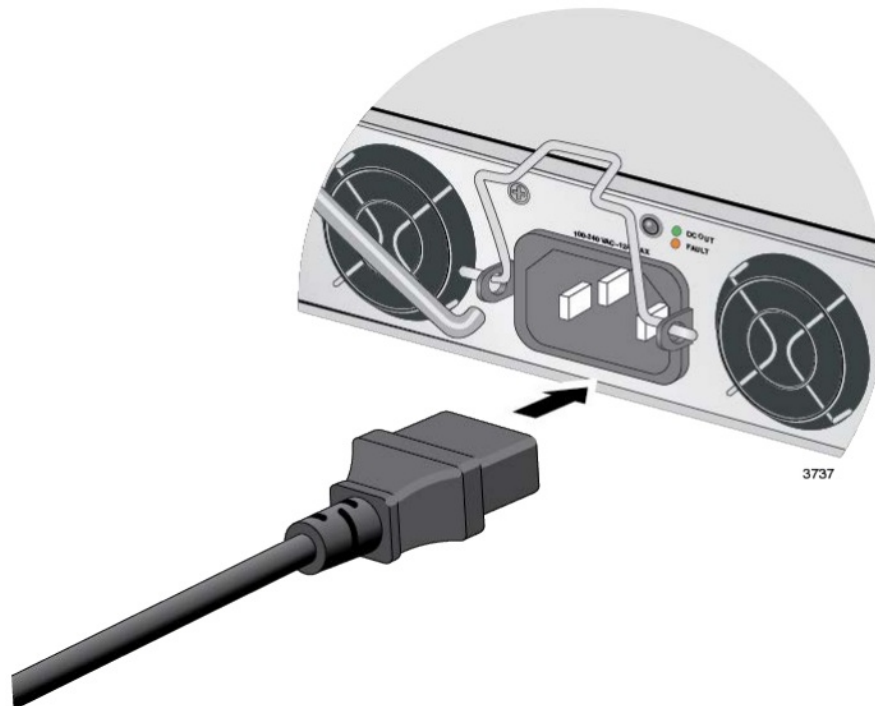

Figure 58. Connecting the AC Power Cord
2. Connect the AC power cord to the connector on the power supply and to an appropriate power source. Refer to Figure 58 on page 118.